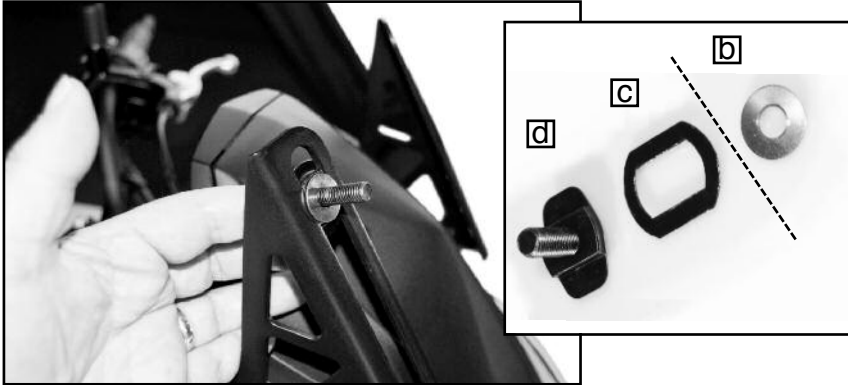

Figure 9
4. Use the knobs (a) to install the VStream Windscreen to the motorcycle's windshield bracket. Assemble stock parts (d, c) from the inside of bracket and washer (b) from the outside. **Figure 9 and 10**